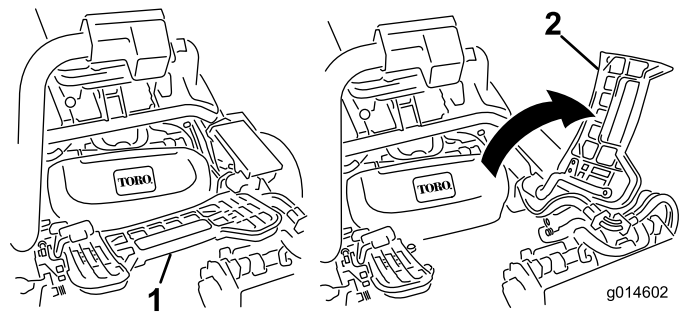

Figure 31
2. Lift up on the foot rest and swing it open, allowing access to the center cutting unit position (Figure 31).